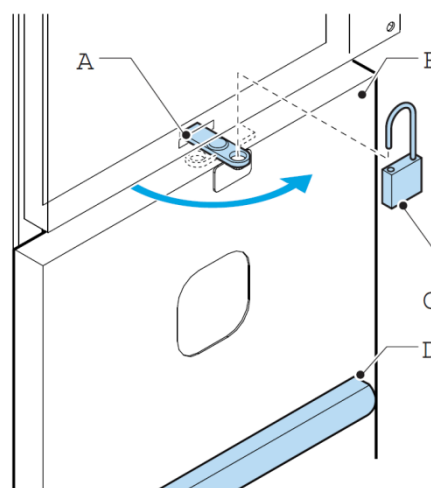

Figure 21: Placing the door back
- Attach the bottom plate on both sides of the frame using the self-locking hexagonal flange bolt (Figure 21 D) and the self-locking hexagonal flange nut (Figure 21 E).
- Attach the second bottom plate to the rear bottom plate using the self-locking hexagonal flange bolts (Figure 21 F) and the self-locking hexagonal flange nut (Figure 21 G).